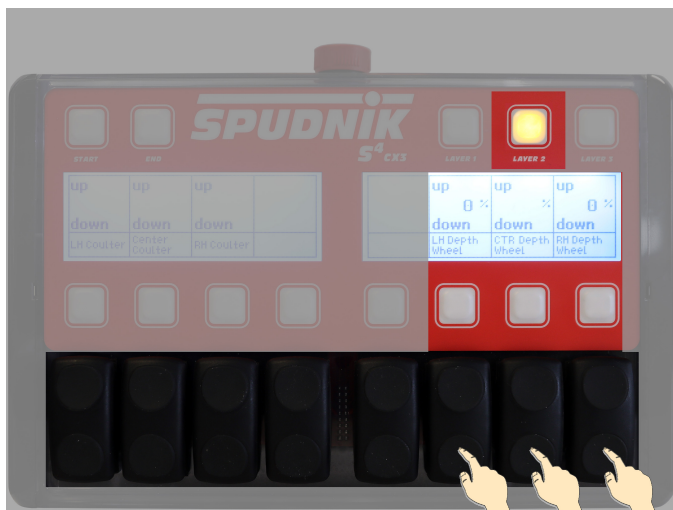
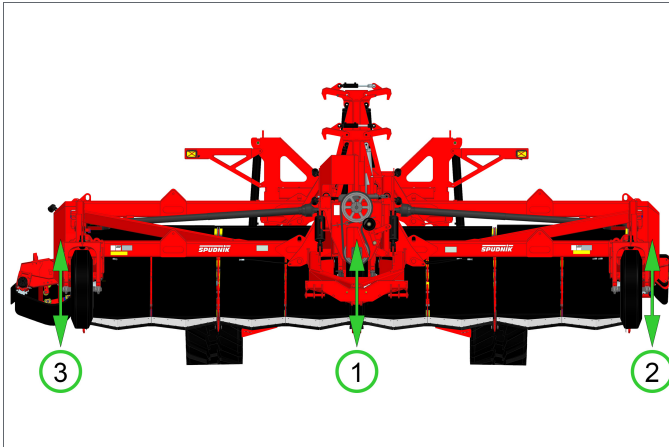

Figure 35
Figure 37
1. Use *LAYER 2* rocker switch 7 (*CTR Depth Wheel*) to raise/lower the (1) Center Depth Wheel. (See Figure 37)
Pressing the bottom of *LAYER 2* rocker switch 7 (*CTR Depth Wheel*) lowers the Center Depth Wheel, which raises the center of the digger nose. (See Figure 35)
2. Repeat step 1, using *LAYER 2* rocker switch 6 (*LH Depth Wheel*), to raise/lower the (2) LH Depth Wheel, which lowers/raises the left end of the digger nose. (See Figure 35, Figure 36, and Figure 37)
3. Repeat step 1, using *LAYER 2* rocker switch 8 (*RH Depth Wheel*), to raise/lower the (3) RH Depth Wheel, which lowers/raises the right end of the digger nose. (See Figure 35, Figure 36, and Figure 37)